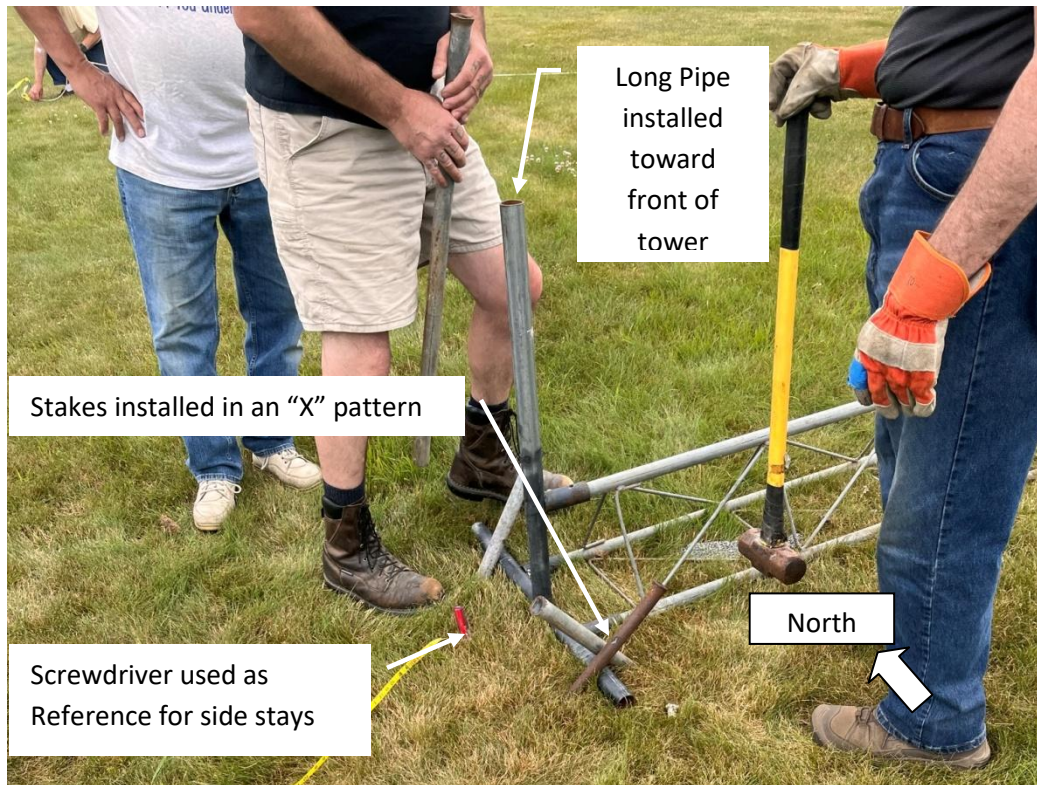

Figure 5 Small Pipe Tower Base Installation: Small pipe tower base is installed with crossed stakes. Screw driver and measuring tape shown for reference.
As Shown in Figure 5, the small pipe antenna bases are held to the ground by cross stakes driven in an "X" pattern. These stakes need to be solid due to the large force required to rotate the tower into an upright position.
- **Install the side stakes:** As seen in Figure 5 a screwdriver is used to pin a measuring tape at the middle the base of the tower. Drive a stake into the ground on the reference line 25' from the center of the base on each side of the tower. As shown in Figure 11.